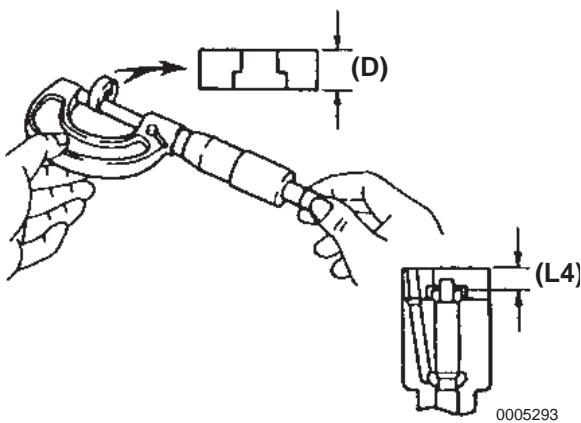

Figure 6-33
3. Measure dimension (D) of the tip packing using a micrometer (**Figure 6-33**).
- Dimension (L4) = (D) - (C)